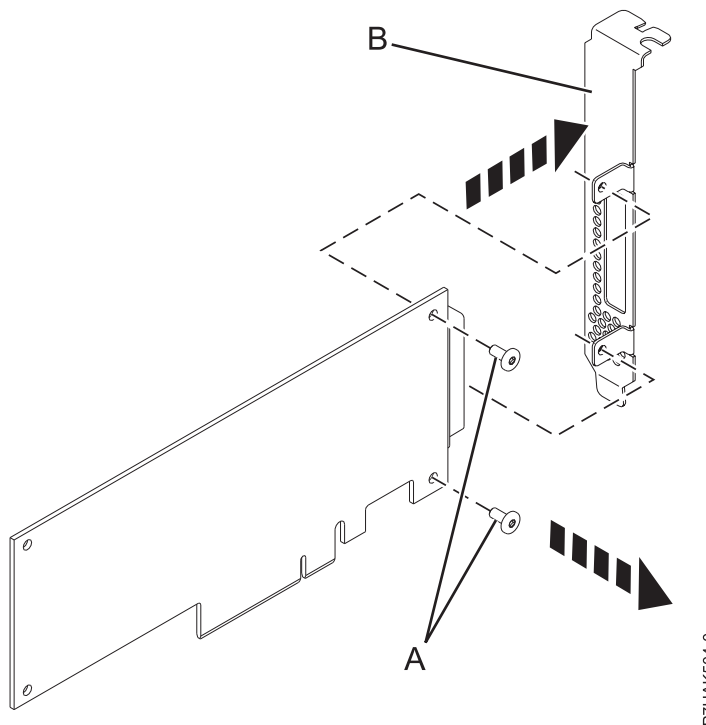

Figure 31. Removing the high-profile tailstock from a new PCIe adapter
8. Using a Phillips screwdriver, unscrew the two retaining screws (A) that attach the high-profile tailstock (B) to the new PCIe adapter, as shown in Figure 31.